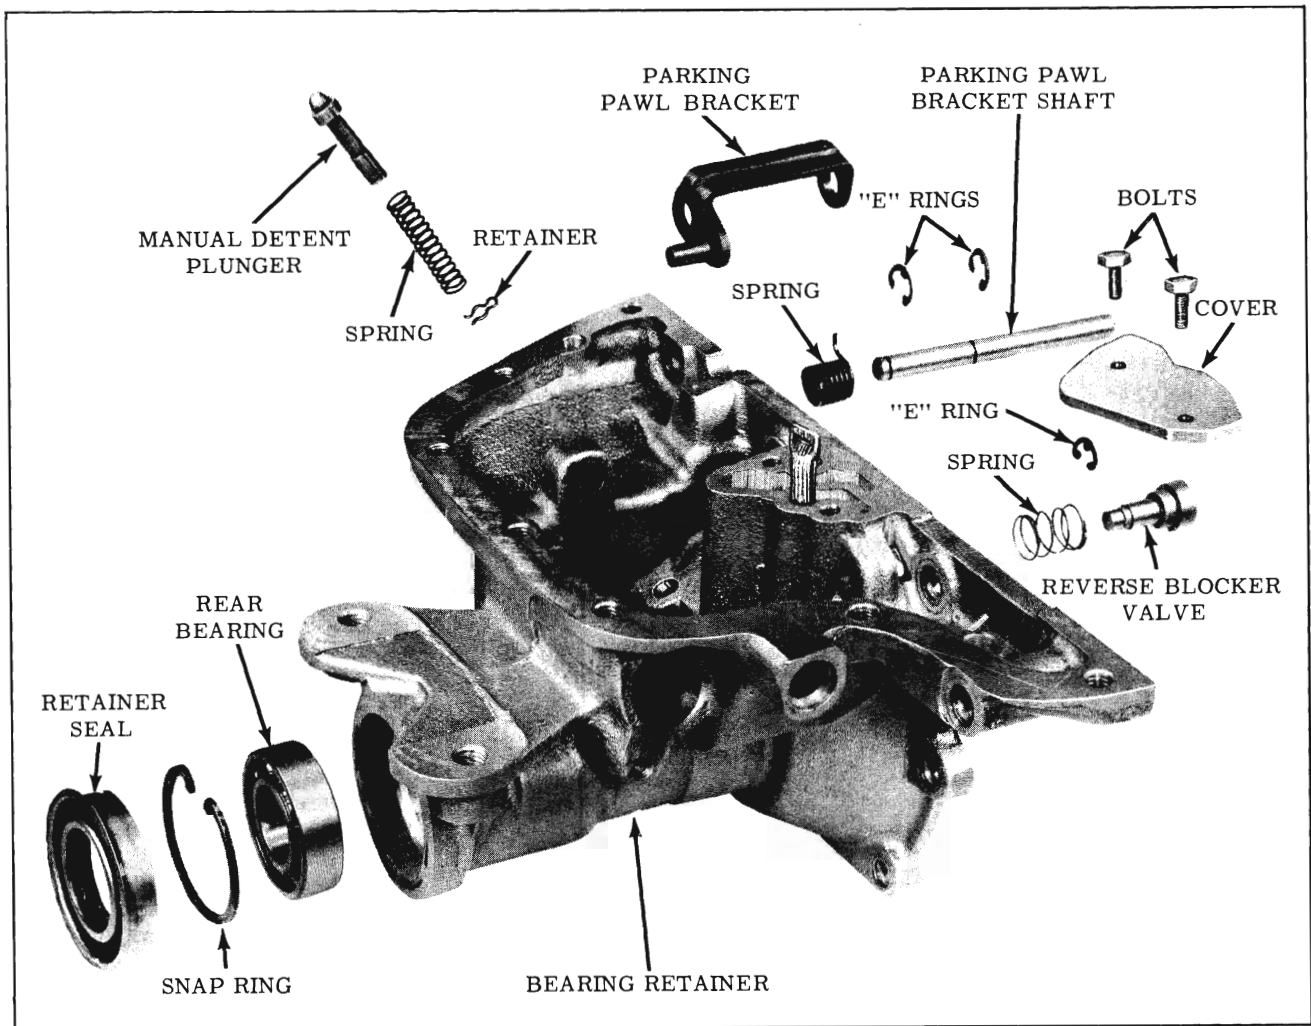

Fig. 3-266 Rear Bearing Retainer
**Rear Bearing Retainer (Fig. 3-266)**
3. Remove rear bearing snap ring, and remove bearing. (Fig. 3-266)